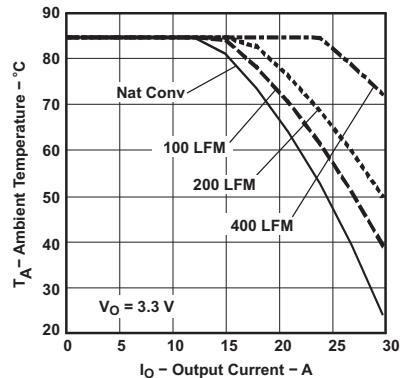
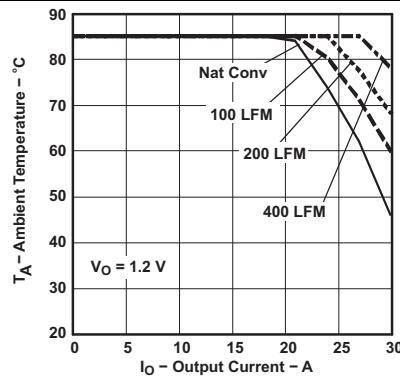

Figure 4. Ambient Temperature vs. Output Current
Figure 5. Ambient Temperature vs. Output Current
- (12) The temperature derating curves represent the conditions at which internal components are at or below the manufacturer's maximum operating temperatures. Derating limits apply to modules soldered directly to a 100 mm × 100 mm double-sided PCB with 2 oz. copper. Applies to Figure 5 and Figure 4.